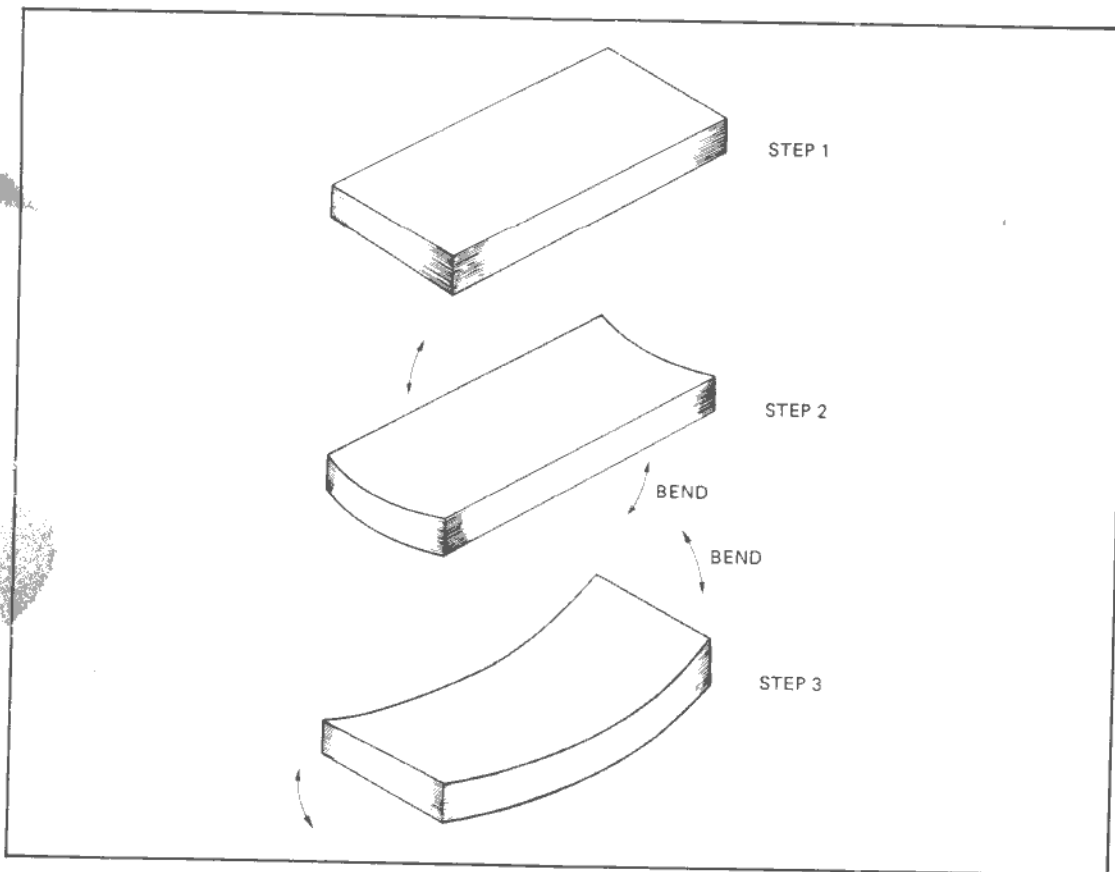

Figure 3-19. Currency Note Separation
1. If new currency is being loaded, each note must be separated from the next. This is done by bending each pack of notes backwards and forwards, across its length and width (refer to figure 3-19).